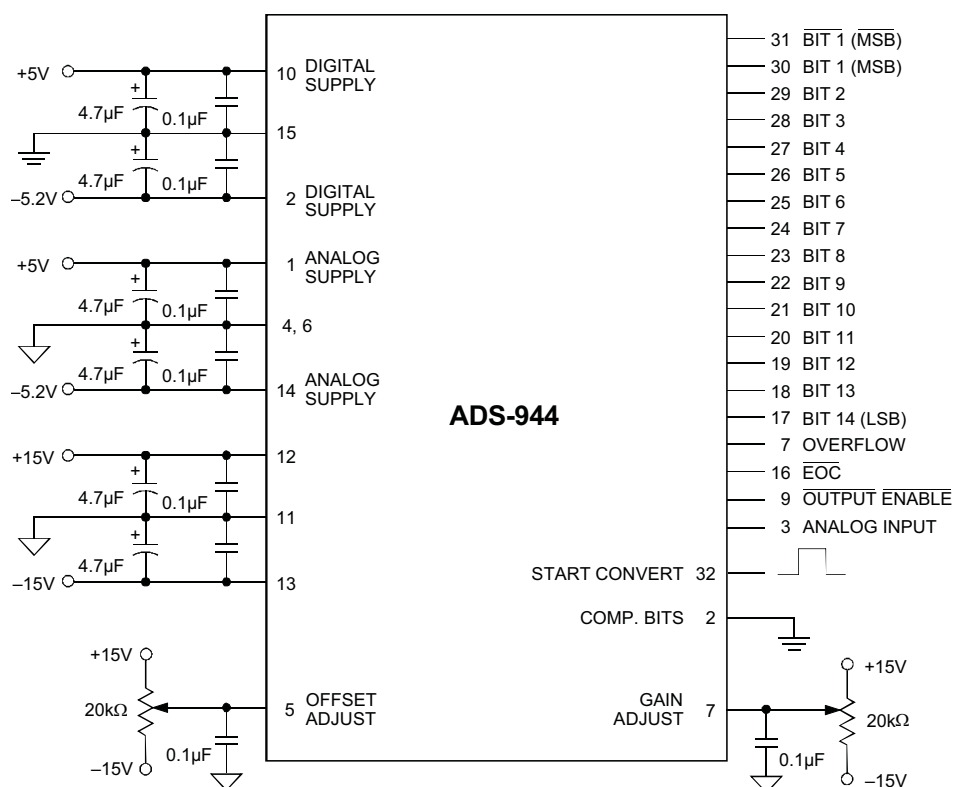

Figure 2. ADS-944 Connection Diagram
2. The ADS-944 achieves its specified accuracies without the need for external calibration. If required, the device's small initial offset and gain errors can be reduced to zero using the adjustment circuitry shown in Figure 2. When using this circuitry, or any similar offset and gain-calibration hardware, make adjustments following warmup. To avoid interaction, always adjust offset before gain.
### CALIBRATION PROCEDURE (Refer to Figure 2 and Table 1)
Any offset and/or gain calibration procedures should not be implemented until devices are fully warmed up. To avoid interaction, offset must be adjusted before gain. The ranges of adjustment for the circuit in Figure 2 are guaranteed to compensate for the ADS-944's initial accuracy errors and may not be able to compensate for additional system errors.